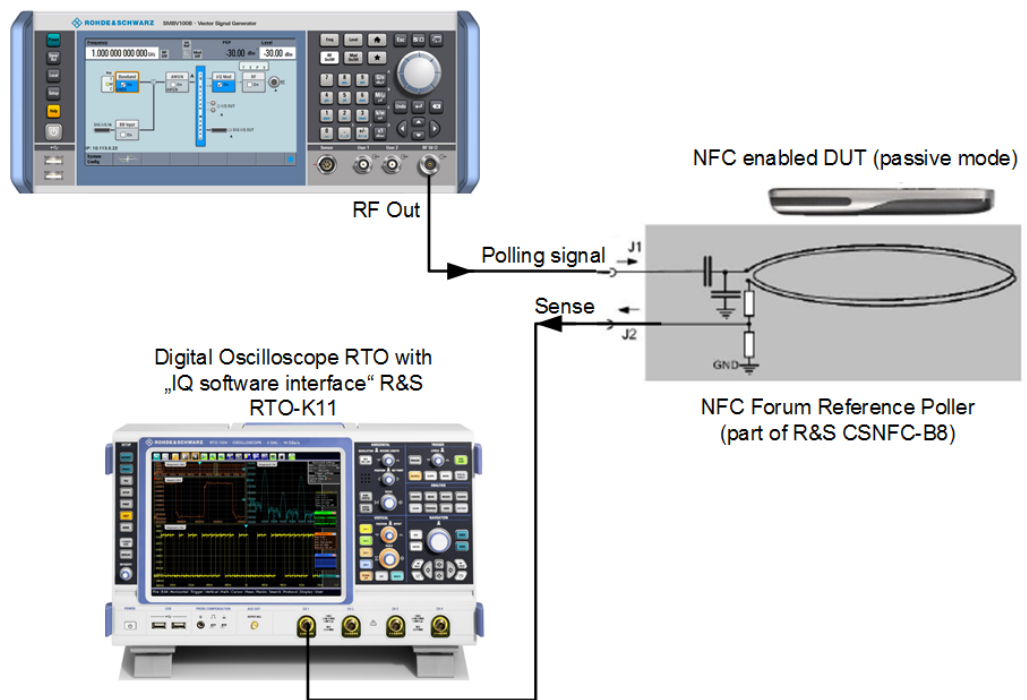

Figure 6-2: Test setup for an NFC mobile phone in listening mode (simplified schematic).
1. Connect the RF Out connector of the R&S SMBV100B to the X1 connector of the NFC Forum reference poller, see Figure 6-2.